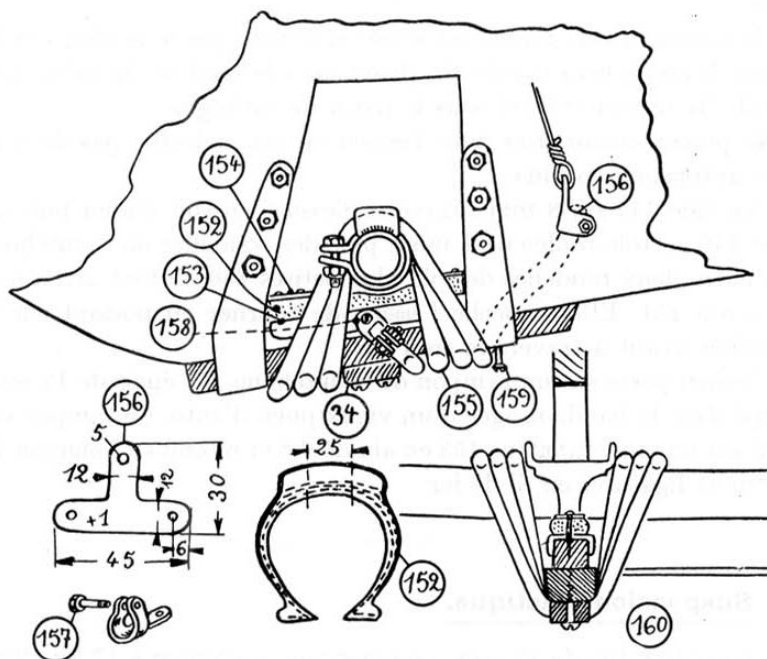

Figure 3.22: Rubber pads and bungee cord
The axle rests on a 12mm-thick rubber pad (152) cut from the tread of a used car tire. This pad is placed on a folded sheet of 0.6mm aluminum (153) and held to the longeron (12) by two steel wire ligatures (*fig. 3.22*).